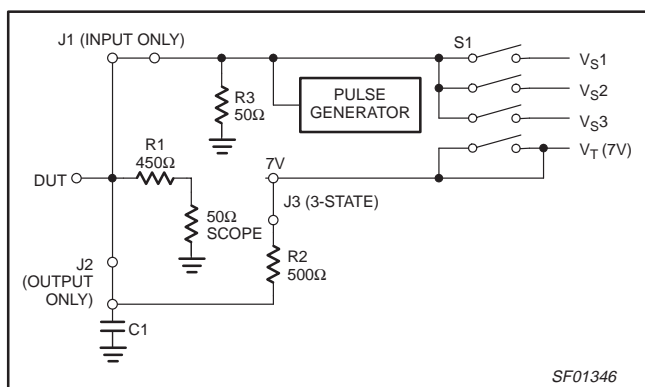
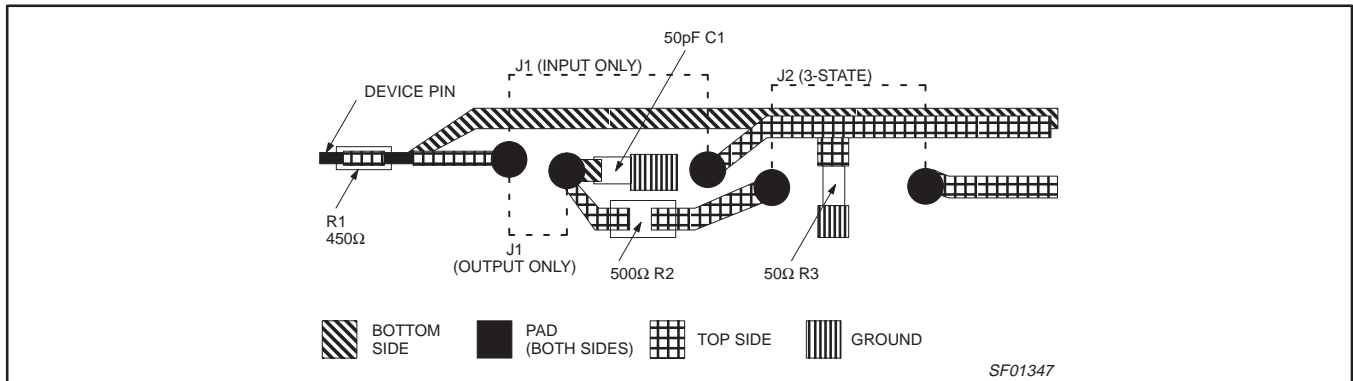
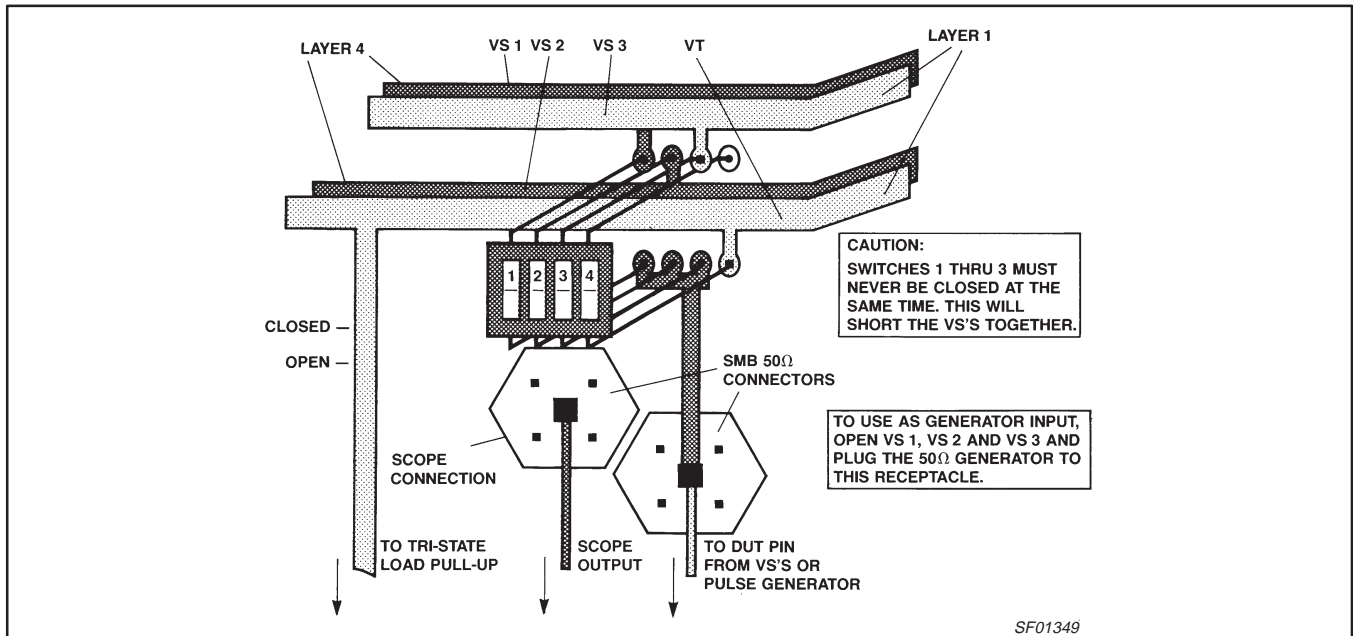

Figure 6. PCB Fixture Schematic
Figure 7. Fixture — Board
Figure 8. DIP Switch Connection for  $V_{S-1}$ ,  $V_{S-2}$ ,  $V_{S-3}$ , and  $V_T$  and the SMB Connectors for Input Signals and Output Measurement
There are two types of signal lines on this fixture: input and output; both of which are 50Ω transmission lines. The input line is on the top side of the board and is always terminated in 50Ω. It is connected to the DUT via a 0.3" jumper, Jumper #1 for input. When this jumper is installed, the DUT pin is available only as an input. To allow this line to be used as an output, a 0.1" jumper, Jumper #1 for output, is used instead of the 0.3" jumper. This connects the DUT pin to the AC load when the DUP pin is an output. See Figure 6.
The second reason being that most suppliers of these technologies provide data based upon the Low-impedance approach and most large users of these products do so as well. This also allows the fixture to be used for ECL testing since that product uses a totally 50Ω environment. Figure 6 illustrates how this test fixture implements the 50pF/500Ω load schematically.
As illustrated in Figure 7, the load is shared with the 50Ω input of the measurement system; a 50Ω sampling oscilloscope. The 450Ω resistor: R1, is soldered to the socket pin of the device and is in series with the 50Ω input of the scope. Figure 7 illustrates this on the board layout of one input/output pin. This allows virtually a probe tip on the device pin. The load capacitor: C1, is a 33pF ceramic chip capacitor. This is added to the measured value of 17pF of board capacitance, achieving the 50pF value specified for the load. The distance from the pin to the capacitor is 0.5 inches and is adequate for the testing of these product families.
For testing 3-State parameters, the 500Ω resistor: R2, is connected to its pull-up supply.  $V_T$  via a 0.3" jumper: Jumper #2. The  $V_T$  supply is bussed to each pin and may or may not be connected with that jumper. See Figures 6 and 7.
When the input is not used for a signal input, the line may be switched to one of three voltage sources:  $V_{S-1}$  through  $V_{S-3}$ , by the use of a DIP switch on each pin. It may also be left open and then the 50Ω pull-down resistor: R1, pulls the line to ground and can be used as a hard low level. See Figure 6. These voltage levels are brought in from external supplies through banana connectors like  $V_{CC}$ . This scheme eliminates excessive cabling to each input to provide the static input levels and thereby reduces parasitic inductances and cross-talk. Each of the 3 busses and the  $V_T$  bus all have places for bypass capacitors in the event of noise on the static levels. Figure 8 illustrates the DIP switch and SMB connectors and how they control the input stimulus and output measurement.
As stated previously, the measurements are made with 50Ω sampling systems. The connections to these systems are made via SMB connectors. This was chosen since it is compatible with SMC; it is push-on, it is small for easy configuration, and it is capable of high bandwidth operation. Figure 8 illustrates where the connections are made, where the pulse generators connect to the input and an SMB connector. Since the 450Ω resistor: R1, is soldered directly to the pin of the device, the actual probe tip is at that point. See Figure 7. This has the advantage of eliminating any distance from the device to the probe tip, thus guaranteeing accurate results.
- The  $V_T$  supply (banana jack): this is the 3-State pull-up voltage and is permanently connected to the bus to each pin. It is selectable by Jumper #2, see Figures 6 and 7. For FAST and ALS products this is 7V. For ACL products this is  $V_{CC \times 2}$  and it is not used for ECL applications.
- Mount the SMB connector with flat side out rather than point side out. See Figure 8.